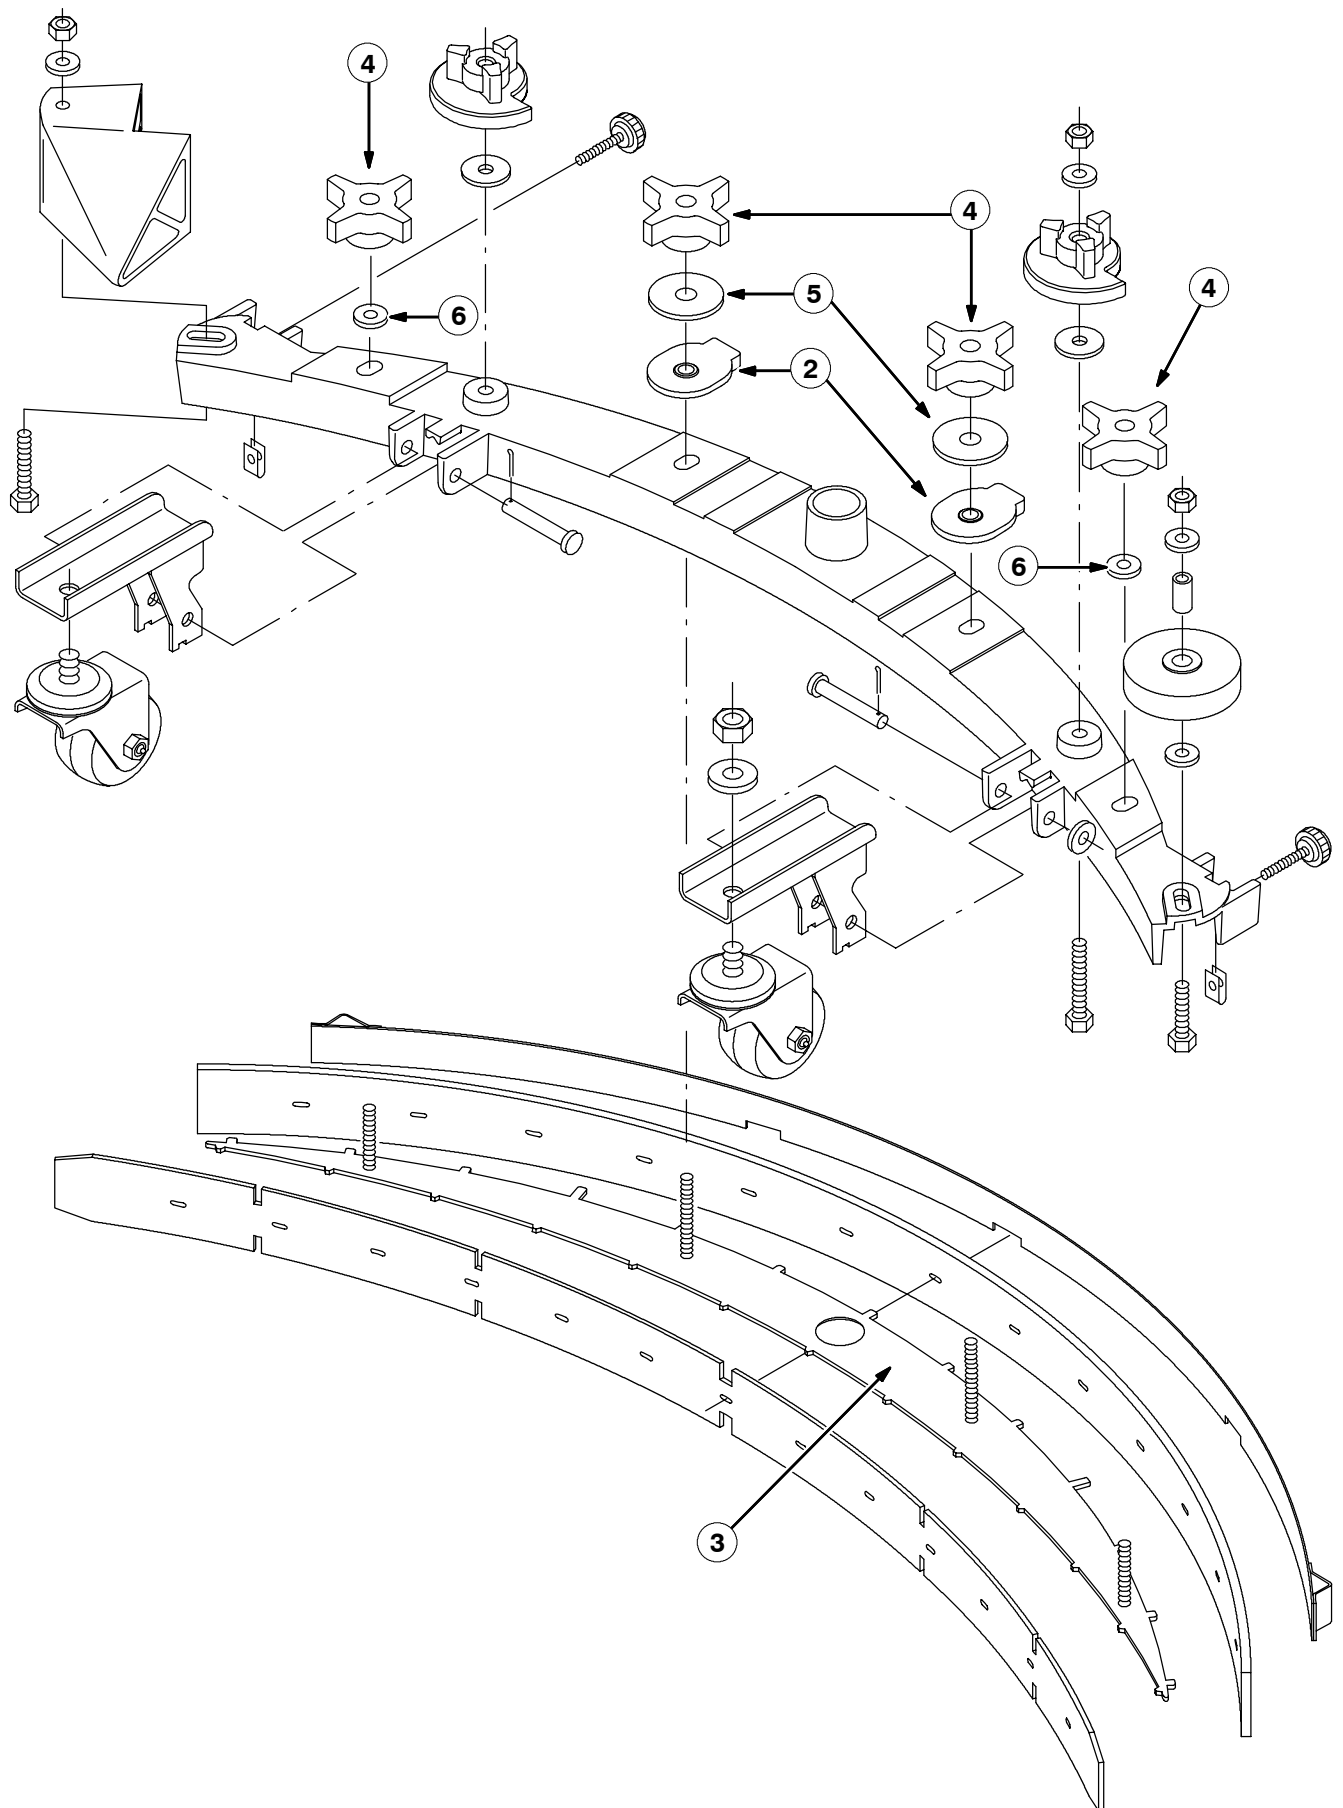

FIG. 2 - NEW REAR SQUEEGEE GROUP
9. Mount the squeegees on the new retainer plate (3). Slide the retainer plate and squeegees into the housing. (Refer to FIG. 2)
10. Secure the retainer plate to the housing with two 4-prong knobs (4), large washers (5) and squeegee mounting rings (3) on the two middle studs. Secure the retainer plate to the housing with two 4-prong knobs (4) and flat washers (6) on the two outside studs. (Refer to FIG. 2)